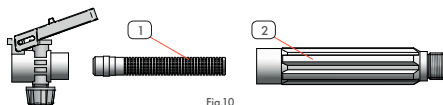

Fig.10
The filter (fig. 10/pos. 1) located on the lance handle (fig. 10) and the adjustable nozzle (fig. 7/pos. 1) located at the lance tip (fig. 1/pos. 1) must be cleaned periodically and before any prolonged downtime.